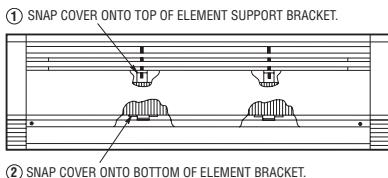

Figure 7. Cover Attachment
3. After cleaning and servicing, replace front cover and screws removed making sure cover is properly secured into each element support bracket at top and bottom – see Figure 7.